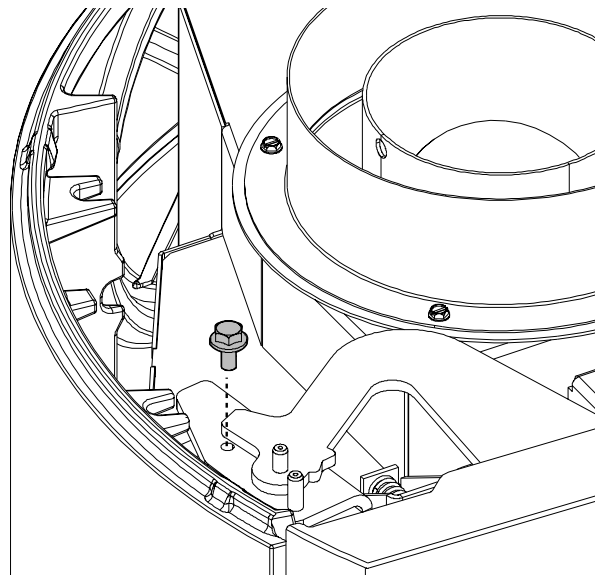

Figure 2.1 Enamel stoves:
- Remove and discard the door-stop bolt from the hinge bar as shown in fig. 2.1.